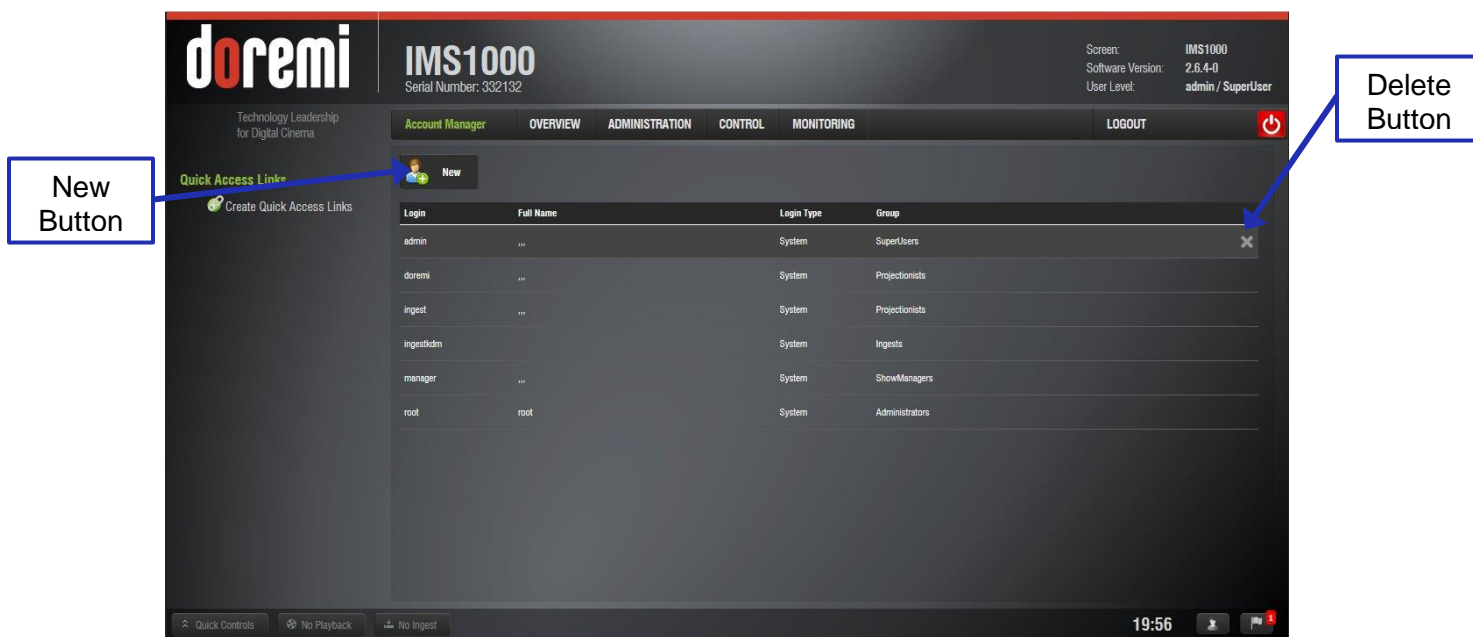

Figure 169: Account Manager GUI
- The following window will appear (Figure 169):
- To add a new user account, click the New button (Figure 169).
- To delete an existing user account, hover over it within the main Account Manager GUI and click the X that appears on the right side of the screen (Figure 169).